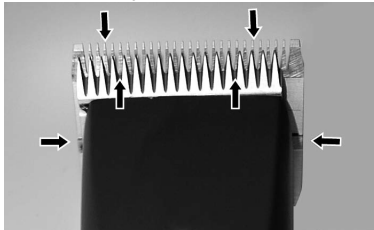

Fig. 13
To receive good clipping results and to increase the durability of the clipper and the clipperhead, it is necessary to apply a thin oil coat between top and bottom blade (Fig. 13).
- ▶ Lubricate the blades sufficiently during the clipping (at least every 15 minutes), so that they do not drain (Fig. 13).
The blades must be oiled before, during and after every use. When the blades of the clipper are leaving stripes or are running with reduced speed, this is a signal that oil is required. Place a few drops of oil ahead and laterally on the clipper blades (see arrows in Fig. 13). Wipe off the excessive oil with a smooth, dry cloth. Lubrication sprays do not have sufficient oil for a good lubrication, but serve for cooling the clipping blades. Immediately change damaged or creased blades to avoid injuries.